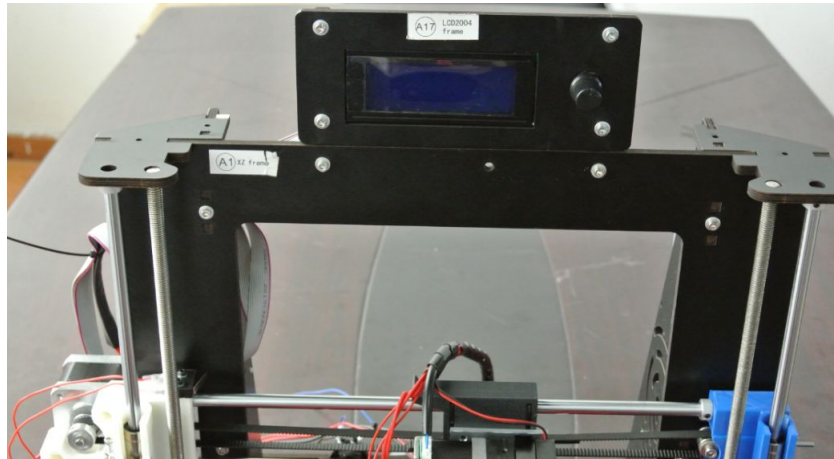

Figure 20 LED Position
Align the holes of A18 board on LED and A1 assembly to install the two together in place. The LED is outward as shown in figure 20. Use bar cable ⑩ to connect LED with motherboard with port 19 of motherboard being connected to the EXP1 port of LED motherboard and the port 20 of motherboard being connected to